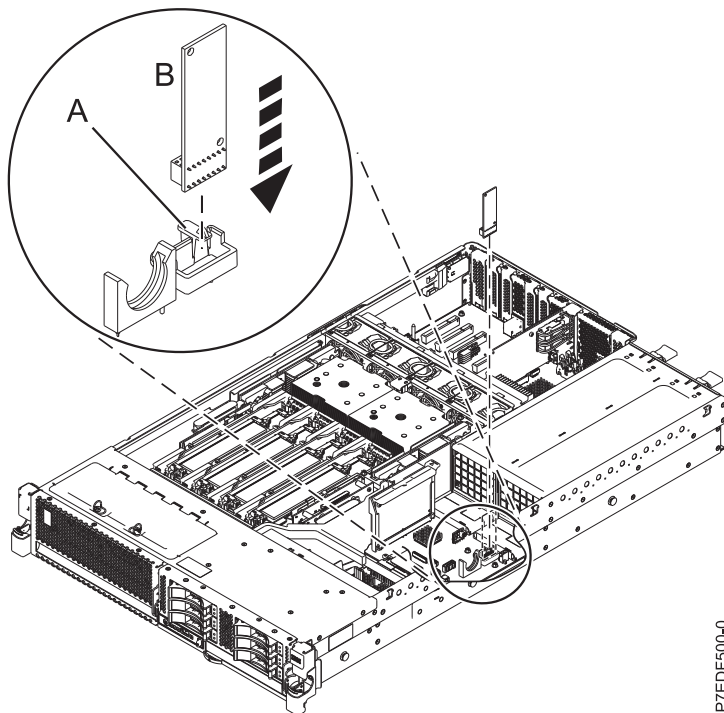

Figure 3. Installing the VPD card
- a. Press on the handle (A) to insert the VPD card (B) into its slot on the system backplane. See Figure 3.